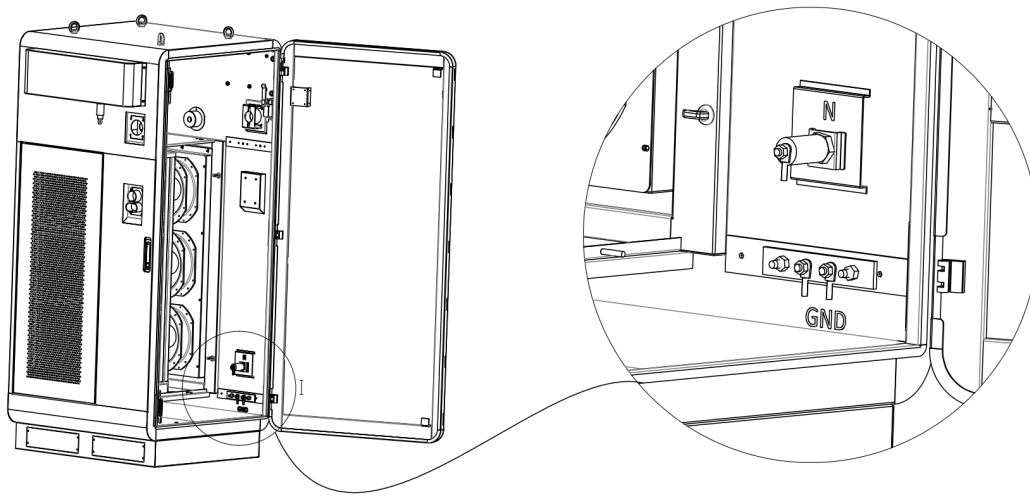

Figure 4.9 Earth Wire (GND) and Neutral Wire Terminals
- 1) After directing wires to enter **TCHARGE®** UDC 360 DCFC charger's cabinet box from the cable inlet, locate the ground bar and the neutral wire terminal inside the cabinet on the **right side (viewed from the front, marked as "GND", see Figure 4.9)**. Cut the GND wire and neutral wires to optimal lengths respectively.
Based on specific requirements of project sites, **TCHARGE®** team may use different versions of design for **TCHARGE®** UDC 360 series DCFC charger's wiring terminals. If the design of terminals on your charger is different from the ones depicted in Figure 4.9 & 4.10, please look for the wire name marks on your charger to match the terminal with input AC supply wires.